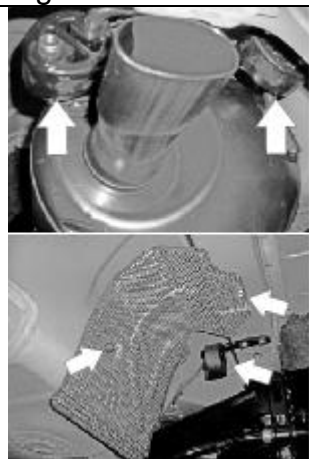

Figure 4 – Remove exhaust rubber mounts and heat shields.
4. Remove the exhaust rubber mounts x 3, as shown in Figure 4.
5. Remove the heat shield by removing bolt x 1 and nut x 1, as shown in Figure 4.